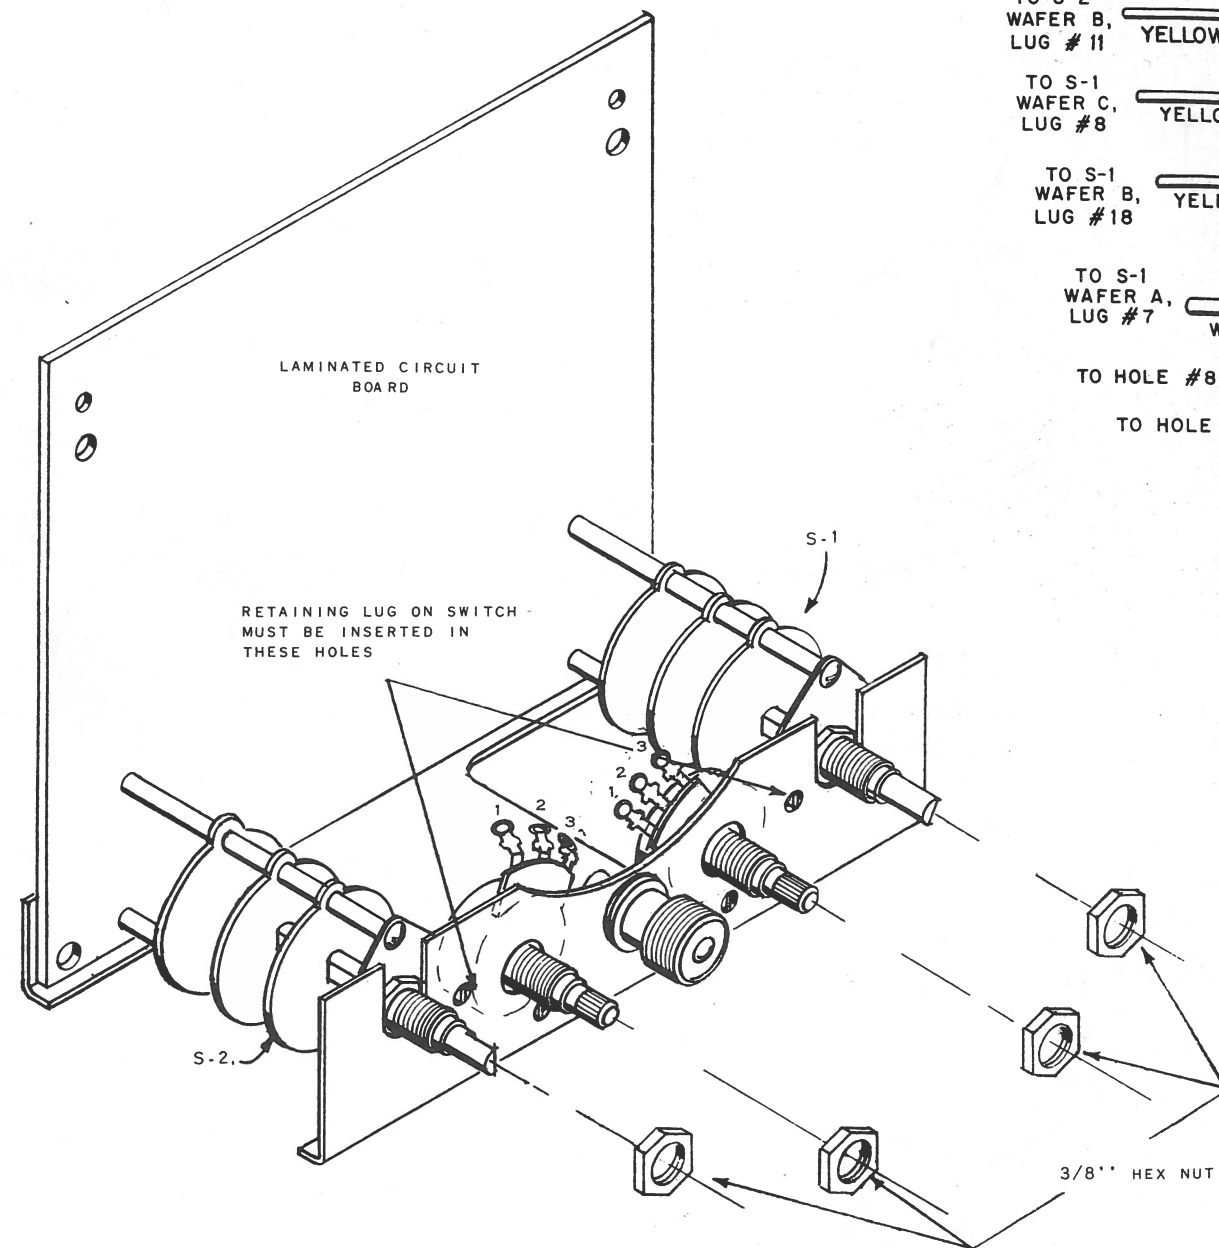

FIGURE 9
8. ☒ Remove the knobs previously placed on the shafts of S-1 and S-2. Mount the laminated board and switches to the lower support bracket as shown in Figure 9. Be sure the protruding lug on the front section of each switch is inserted in the small hole provided in the bracket. Place a ⅜-inch hex nut over the shaft of each switch. Tighten securely.
10. ☒ Connect the white wire from the connector to S-1, wafer A, lug #7. (S)
11. ☒ Connect the yellow wire from the connector solder lug to S-1, wafer B, lug #18. (S)
12. ☒ Select R-22, the 10K potentiometer. Insert the shaft of R-22 through the hole in the support bracket to the left of the probe connector, as shown in Figure 9. Place a ⅜-inch hex nut over the shaft of R-22, but do not tighten. To facilitate wiring, temporarily position R-22 with the lugs upward, as shown.
17. ☒ Using the same procedure as with R-22, mount R-18 to the support bracket on the right side of the connector. Place a ⅜-inch hex nut on the shaft of R-18, but do not tighten. Temporarily place the potentiometer in the position shown in Figure 9.
18. ☒ Identify the yellow wire previously connected to S-1, wafer C, lug #8. Connect the free end of this wire to R-18, lug #1. (S)
20. ☒ Cut a 5-inch length of orange wire. Remove ¼ inch of insulation from one end of the wire. Insert this end in hole #5 on the laminated board. (S) Strip ¼ inch of insulation from the other end of the wire. Insert this end through R-18, lug #3, then connect it to R-18, lug #2. Solder lugs #2 and #3 of R-18.
21. ☒ Position R-18 as shown in Figure 9, with the retaining lug on the front of the potentiometer inserted in the small hole in the bracket. Tighten the hex nut.